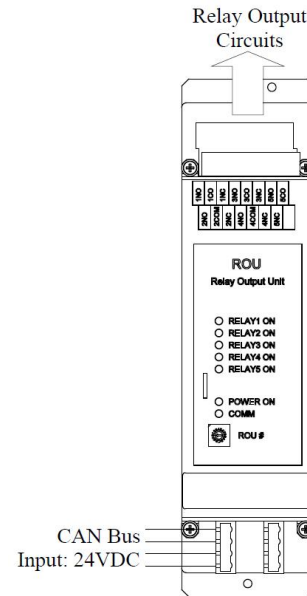

Figure 3. FW347 Terminals
3. Connect the FW347 with the FW201 AMI and/or the other units through the two 4-pin terminals for CAN Bus and Input: 24VDC, using the wires and terminals provided, see Figure 3. The terminal upside is for the relay output circuits.